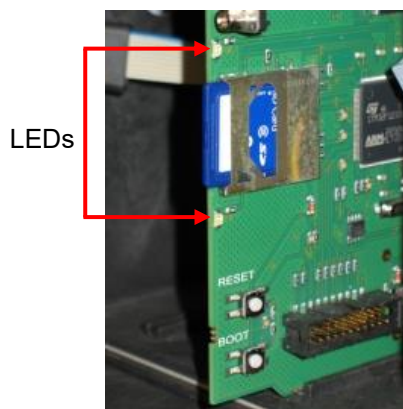

Figure 29
8. The Testomat restarts and implements the update. In this mode, although no text is output, the status is indicated via the LEDs of the SD card (see figure 29) as well as those on the control card (see figure 31 on page 64). The programming progress is indicated as bars with five LEDs on the control card: Initially, only LED1 flashes (in the vicinity of the plug connector to the motherboard) slowly (once every two seconds) and later permanently, whereupon the next LED begins flashing. The process is repeated until all LEDs light up permanently. The firmware update is now complete. The Testomat is started automatically with the new operating software. The complete firmware update takes around 70 seconds.